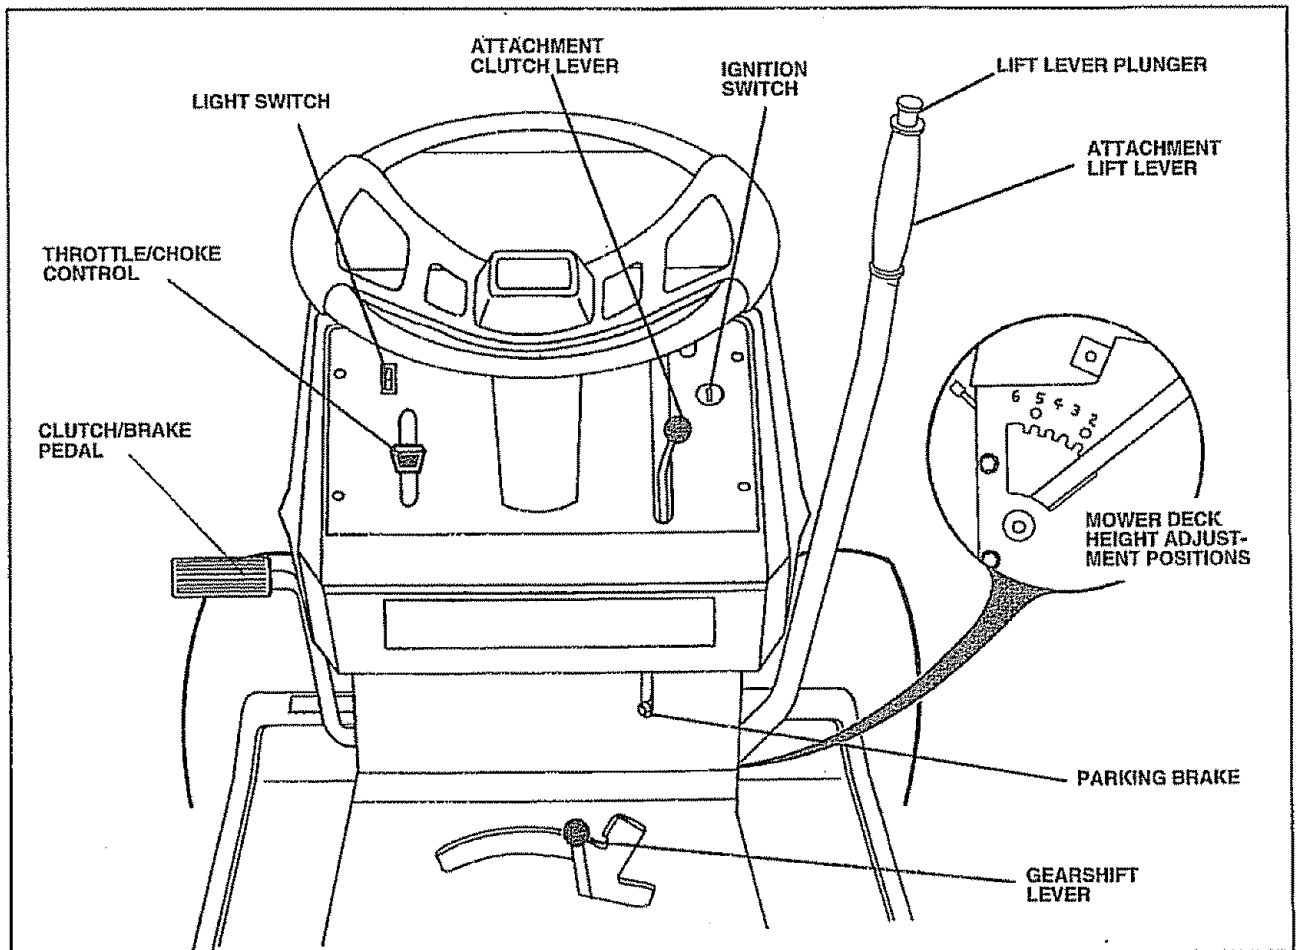

FIG. 8
## TO ROLL TRACTOR OFF SKID (See Fig. 8)
- Slide seat until a comfortable position is reached which allows you to press clutch/brake pedal all the way down (See Fig. 8).
### TO ADJUST MOWER CUTTING HEIGHT (See Fig. 8)